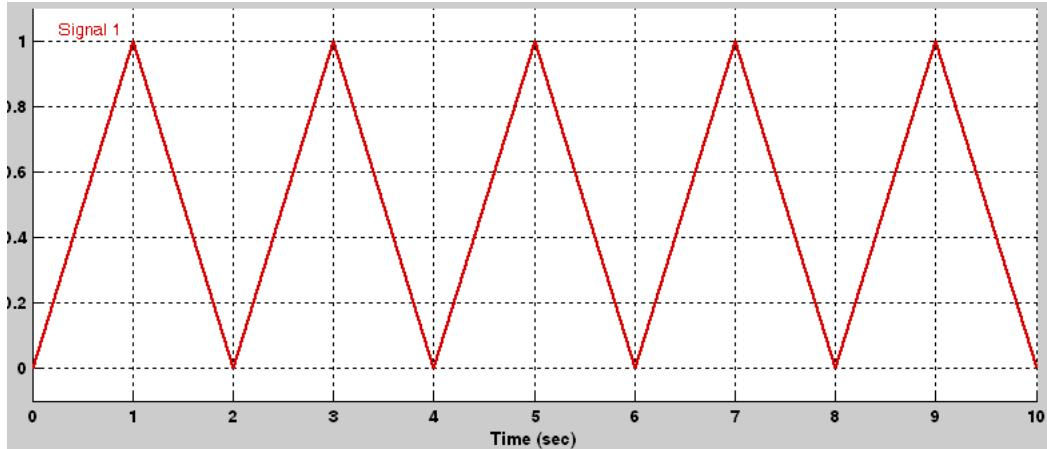

Figure 15.8. Triangular waveform for Example 15.4
7. When we select a line segment on the time axis (x-axis) we observe that at the lower end of the waveform display window the **Left Point** and **Right Point** fields become visible. We can then reshape the given waveform by specifying the Time (T) and Amplitude (Y) points. For our example we will use the triangular waveform shown in Figure 15.8.
For the triangular waveform of Figure 15.8 it is specified that the Time (T) and Amplitude (Y) points are (0,0), (1,1), (2,0), (3,1), (4,0), (5,1), (6,0), (7,1), (8,0), (9,1), and (10,0).